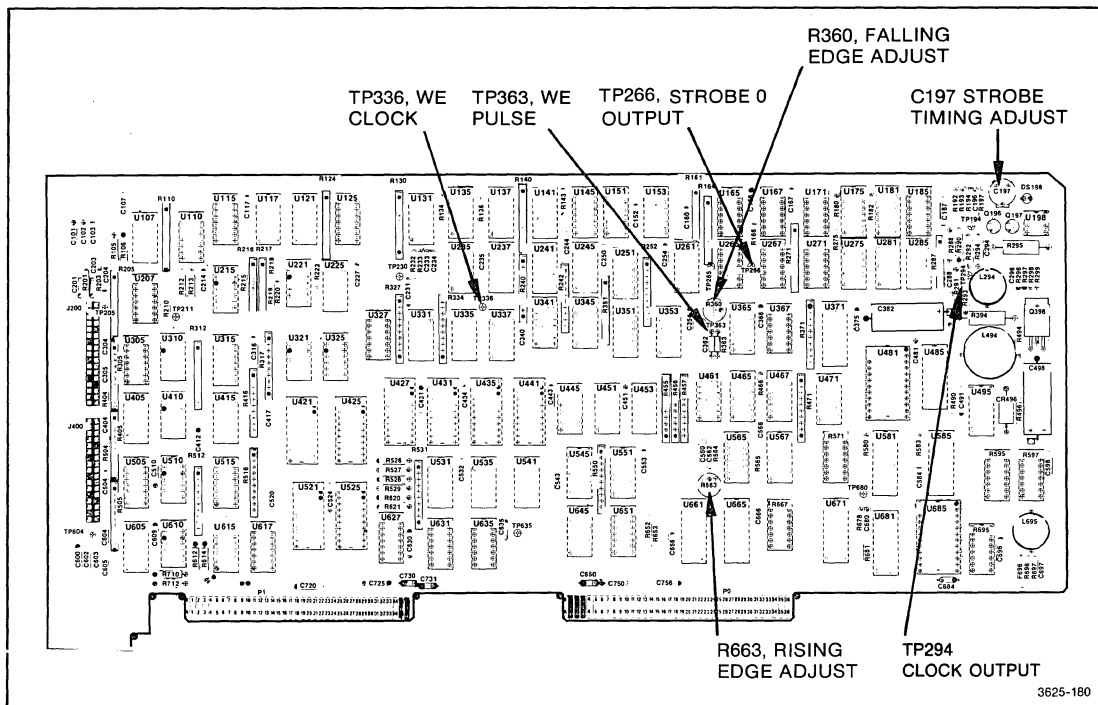

Figure 5-60. 91P16 test point and adjustment locations.
8. Attach the probe for channel 1 of the oscilloscope to test point TP294 on the 91P16. Attach the probe for channel 2 of the oscilloscope to TP266 (see Figure 5-60). Set the oscilloscope to trigger off a rising edge in channel 1. Attach the ground leads of the probes to any convenient ground point on the Pattern Generator.
2. Adjust potentiometer R360 (see Figure 5-60) so the falling edge in channel 2 is 15 ns, ± 1 ns after the rising edge in channel 1.